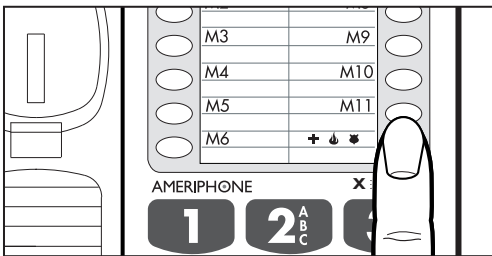

Figure 16 - Memory Buttons
You can automatically dial twelve programmed telephone numbers using the memory buttons shown in Figure 16. Each button can be programmed (or reprogrammed using the same procedure) for a phone number up to 16 digits long.
4. Press a memory button (Figure 16) to store this number on that button.